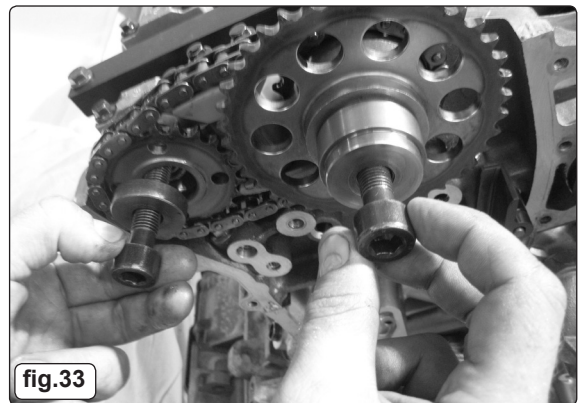

fig.33
- 4.7.10 Remove the bolts of the inlet and exhaust camshaft gears and discard old bolts (fig.33).